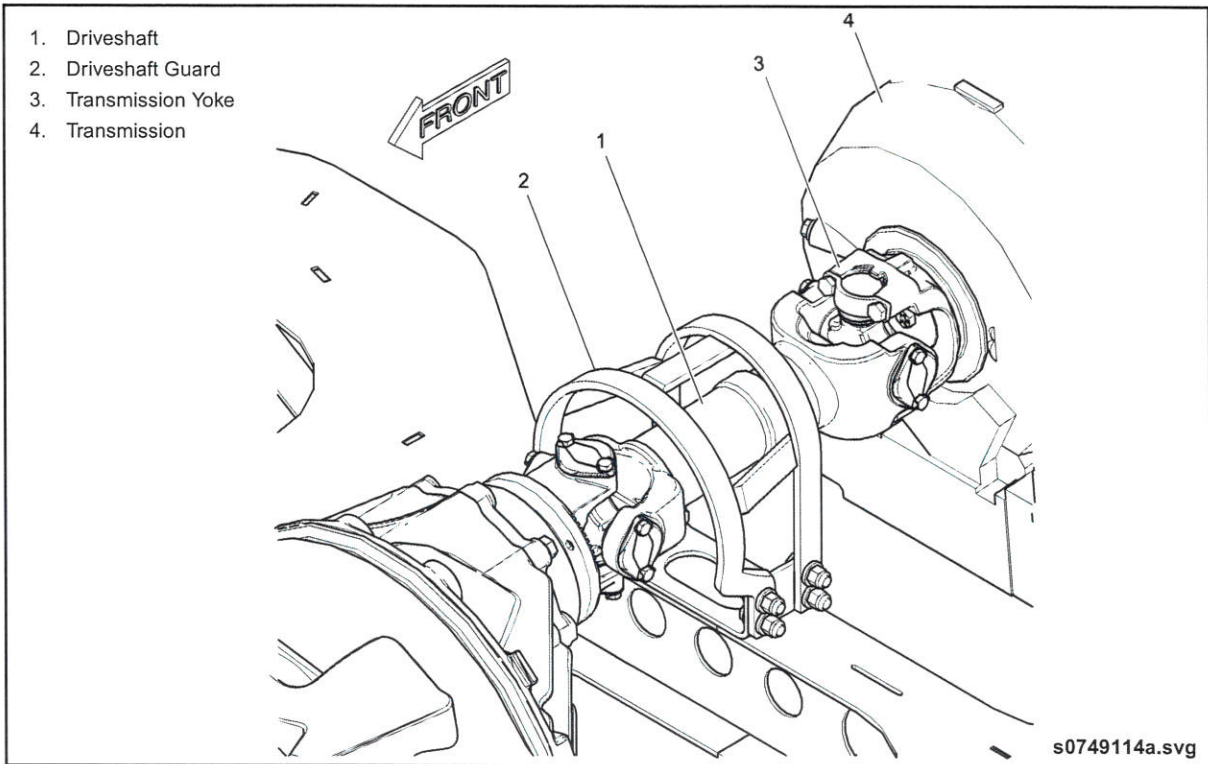

Fig. 4-3: Disconnecting the Driveshaft
11. Underneath the vehicle in the transmission area, disconnect the driveshaft from the transmission. Allow the driveshaft to hang onto the rear axle bunk. See "Fig. 4-3: Disconnecting the Driveshaft" on page 6.